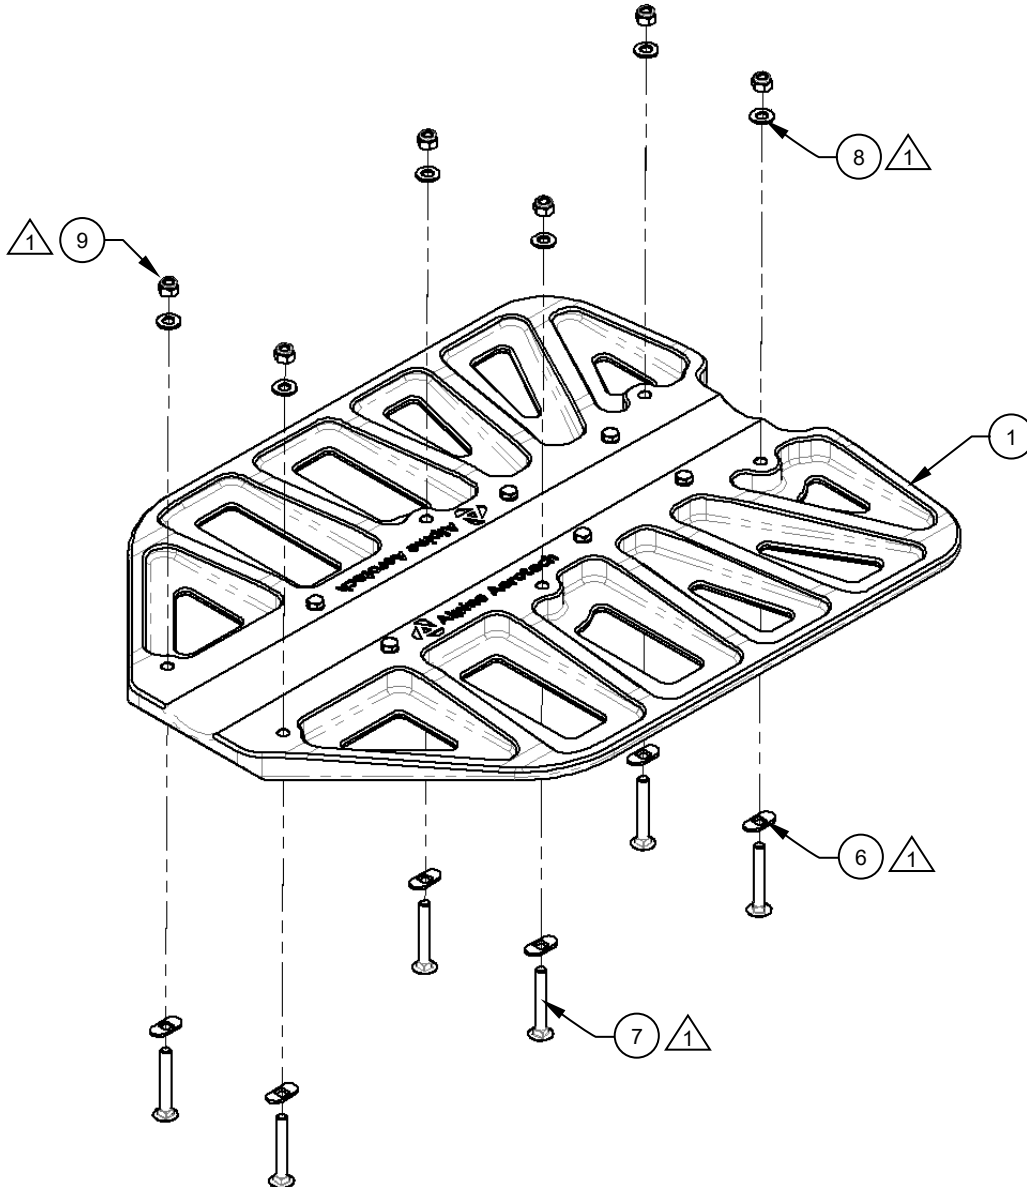

Figure 2
- 2. Install the supplied hardware on the Bear Paw, Detail (Item 1) as shown. Reference Figure 2.